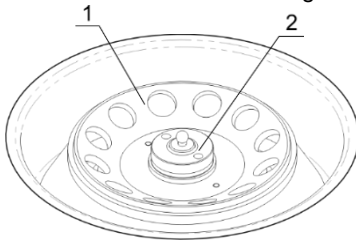

Fig. 1. Rotor installation
- place the rotor (fig.1/1) and secure it tightly with the fixation nut, placing the nut with the key holes up (fig.1/2) and turning it clockwise by securing wrench.
- if the centrifuge is switched on, press the Open key (fig.1/1) and open the outer lid lifting it upwards with a hand;